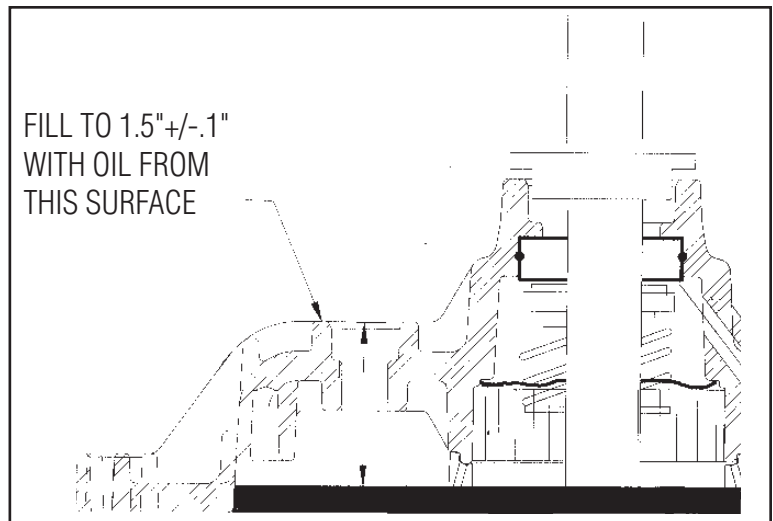

Figure X-29 Fill until the oil level measures 1.5" (3.8cm) from the top of the oil plug opening.
M. Pour Rain Bird® Oil into the unit using a funnel at the oil plug openings. Fill until the oil level measures 1.5"(3.8cm) from the top of the oil plug opening. (Fig. X-29)